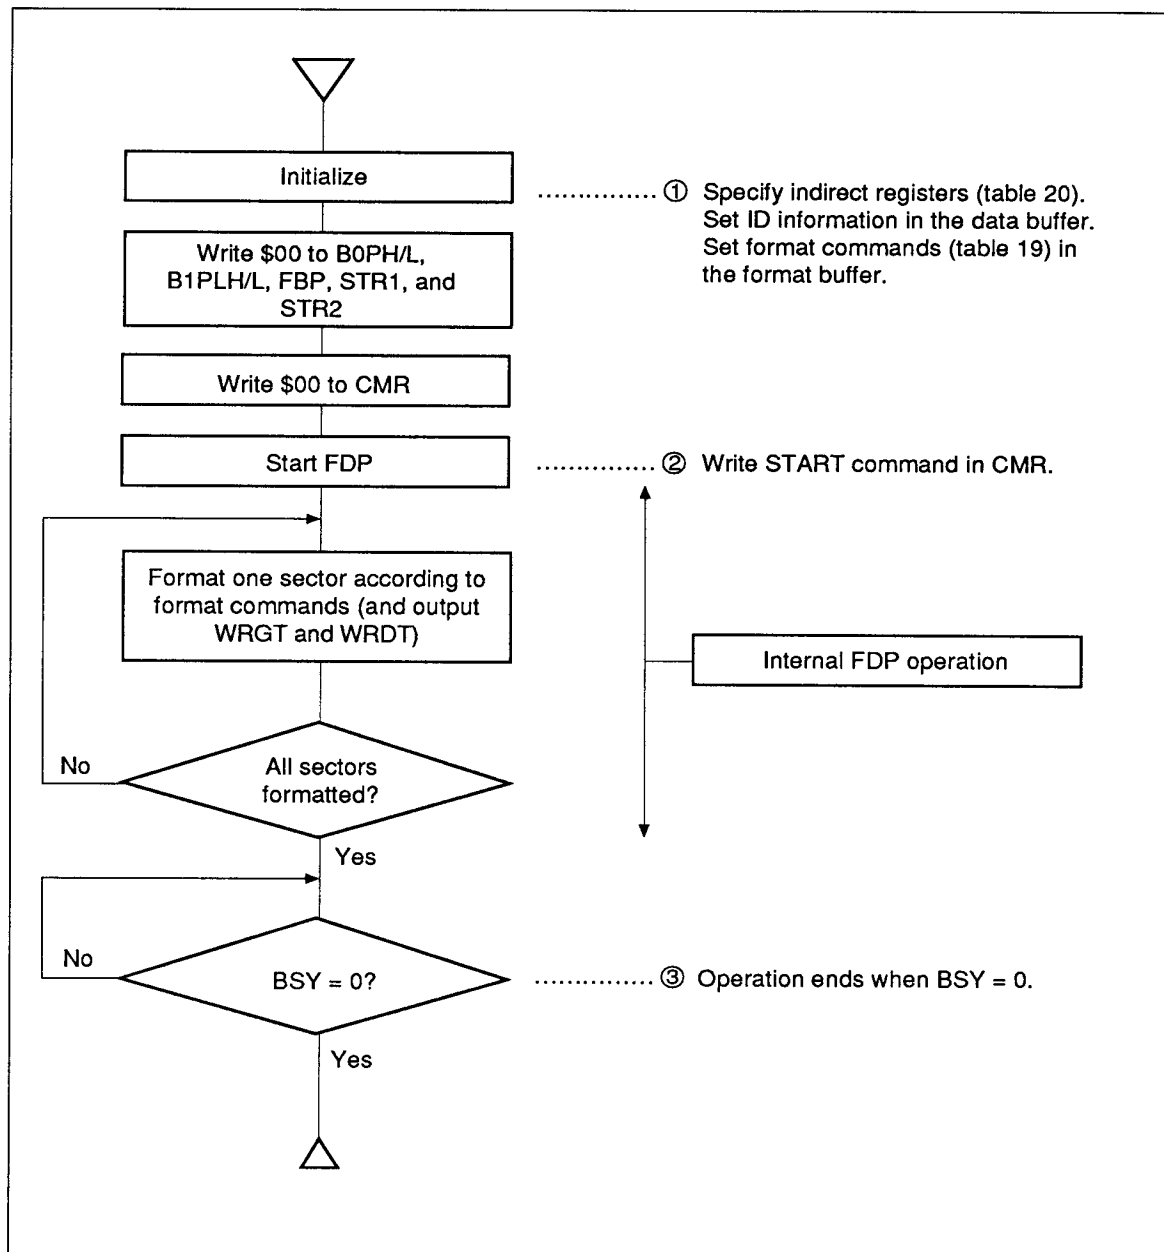

Figure 10 Formatting Flowchart
**Conditions:** Hard sector mode, 3 sectors to be formatted, ECC data 4 bytes long (figure 10)